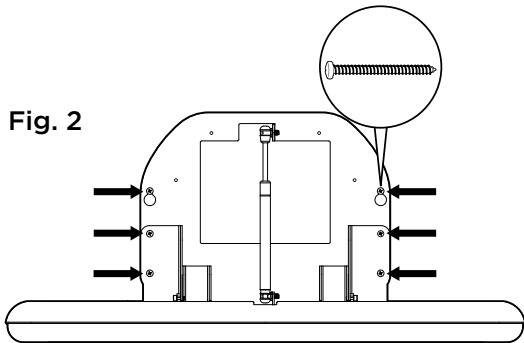

Fig. 2
- There should be six screws holding the metal mounting frame to the wall. **Fig. 2** Remove the four lower mounting screws. Keep all screws to remount the unit.